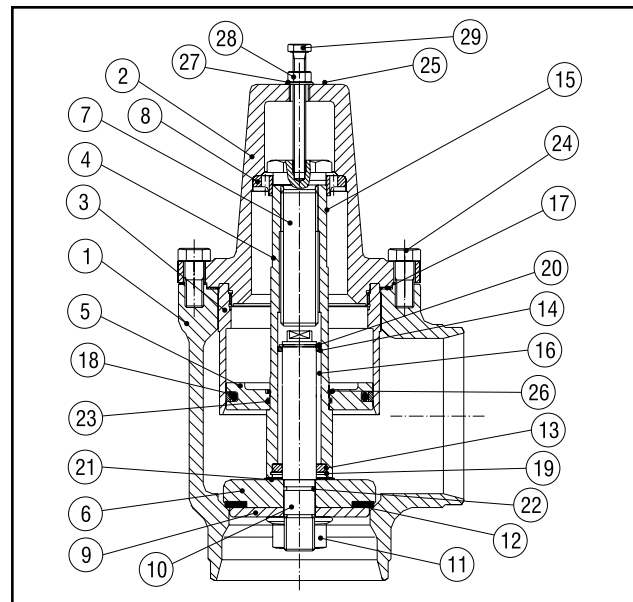

Figure 28 - Cold-Start Valve
Inside the valve (see Figure 28) there is a very heavy, tight spring (15). Provided the valve is intact,